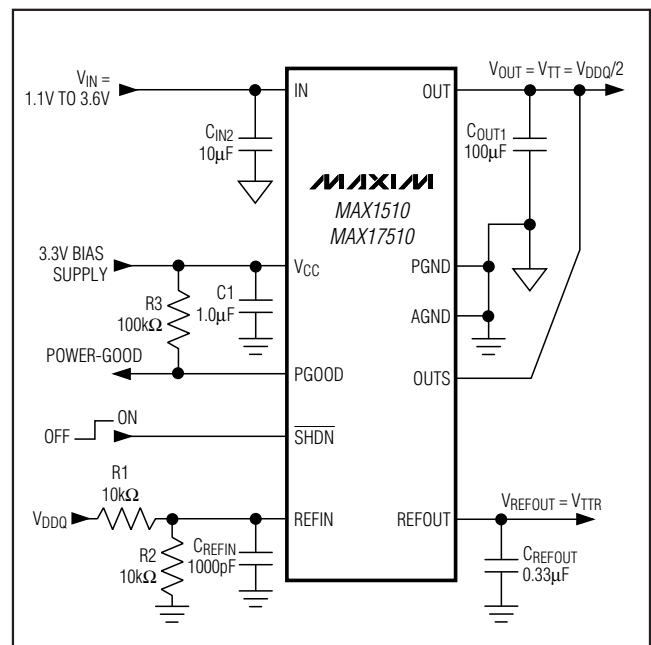

Figure 1. Standard Application Circuit
( $V_{IN} = 1.8V$ ,  $V_{CC} = 3.3V$ ,  $V_{REFIN} = V_{OUTS} = 1.25V$ ,  $\overline{SHDN} = V_{CC}$ , circuit of Figure 1,  $T_J = T_A = -40^{\circ}C$  to  $+85^{\circ}C$  for MAX1510ETB,  $T_J = T_A = -40^{\circ}C$  to  $+125^{\circ}C$  for MAX17510ATB, unless otherwise noted. Typical values are at  $T_A = +25^{\circ}C$ .) (Note 1)
(Circuit of Figure 1.  $T_A = +25^\circ\text{C}$ , unless otherwise noted.)
The MAX1510/MAX17510 are low-voltage, low-dropout DDR termination linear regulators with an external bias supply input and a buffered reference output (see Figures 1 and 2). VCC is powered by a 2.7V to 3.6V supply that is commonly available in laptop and desktop computers. The 3.3V bias supply drives the gate of the internal pass transistor, while a lower voltage input at the drain of the transistor (IN) is regulated to provide VOUT. By using separate bias and power inputs, the MAX1510/MAX17510 can drive an n-channel high-side MOSFET and use a lower input voltage to provide better efficiency.
The MAX1510/MAX17510 regulate OUTS to the voltage set at REFIN, making the MAX1510/MAX17510 ideal for memory applications where the termination supply must track the supply voltage. Typically, REFIN is set by an external resistive voltage-divider connected to the memory supply (VDDQ) as shown in Figure 1.